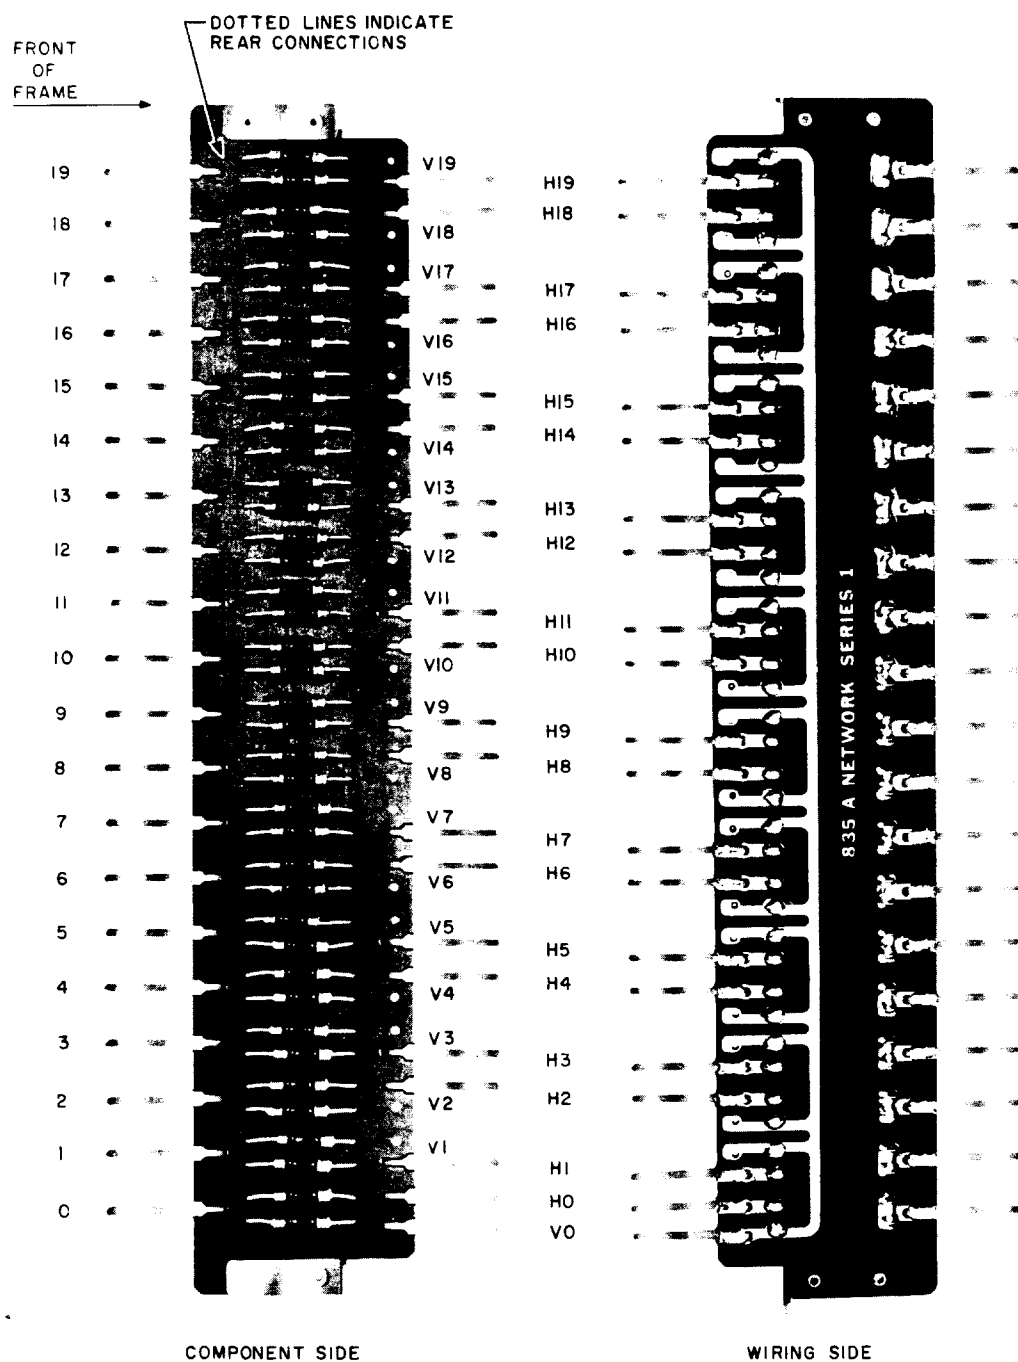

Fig. 1 - 835A Network Assembly (terminal designations are for reference only)
1.02 Replacement of defective diodes shall be made while the network is in place on the identification frame. As shown in Fig. 1, the 835A network is a printed wiring board used to mount 20 pairs (H and V) of 420B type diodes.
3.01 *V1 Through V19 Diodes:* For the initial replacement of a defective V diode, mounted as shown in Fig. 1, proceed as follows.
3.02 VO and HO Through H19 Diodes: For the initial replacement of a defective VO or H diode, mounted as shown in Fig. 1, proceed as follows.